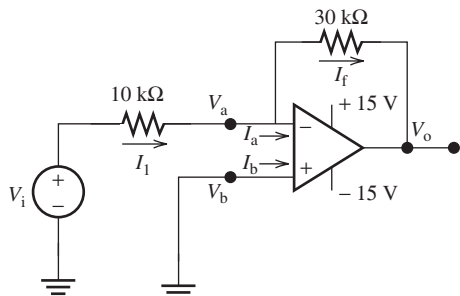

FIGURE P8.69 Circuit for Problem 8.69.
- 8.69** (B) Using the circuit shown in Figure P8.69, find the following: